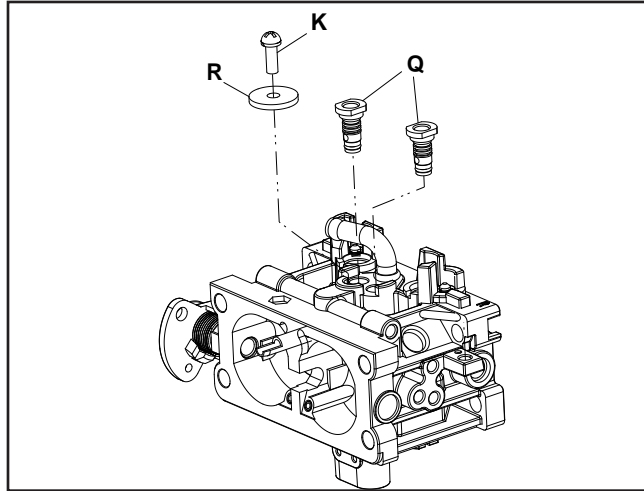

Figure 16
1. Remove the screw (K) (Figure 16) and washer (R) at the top of the carburetor, near the fuel inlet.
2. Remove each pilot jet (Q) (Figure 16) using a small flat screwdriver to **carefully** remove.